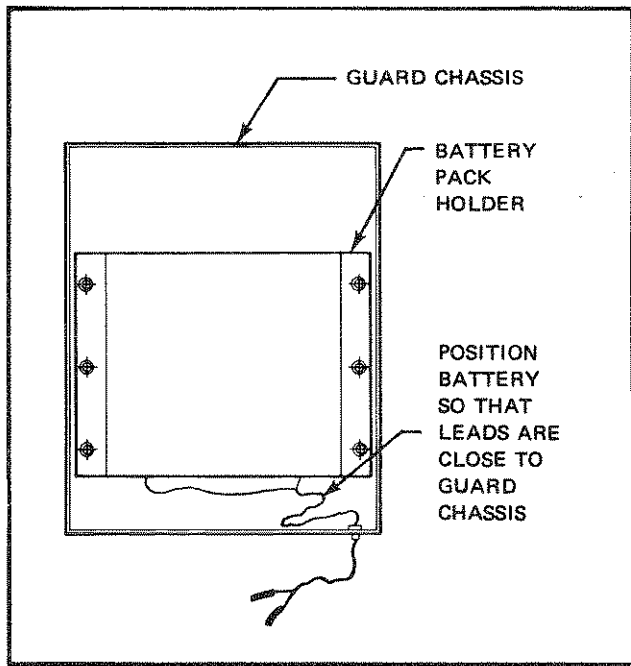

Figure 6-9. BATTERY INSTALLATION
g. Install the battery pack on the underneath side of the top guard chassis, using the battery pack holder and the six machine screws (Figure 6-9).